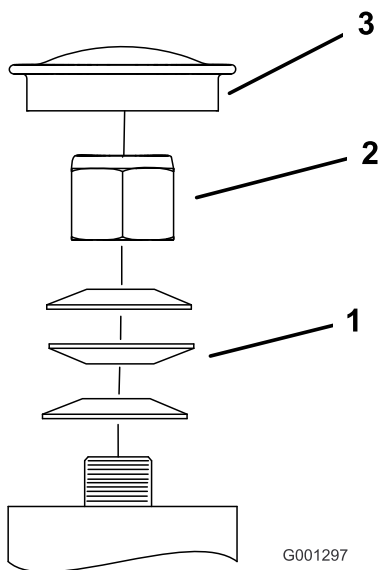

Figure 67
3. Remove the dust cap from the caster and tighten the locknut (Figure 67).
4. Tighten the locknut until the spring washers are flat, and then back off a 1/4 turn to properly set the preload on the bearings (Figure 67).
Important: Make sure that the spring washers are installed correctly as shown in Figure 67.
5. Install the dust cap (Figure 67).